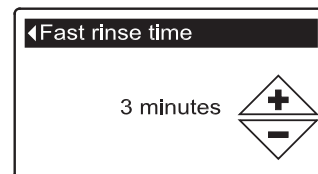

FIG. 71
- 8d. **Fast rinse time:** Press the UP (▲) or DOWN (▼) buttons to change the fast rinse time. Hold the button down to rapidly advance. The fast rinse time can be set from 1 to 30 minutes* (See Figure 71).